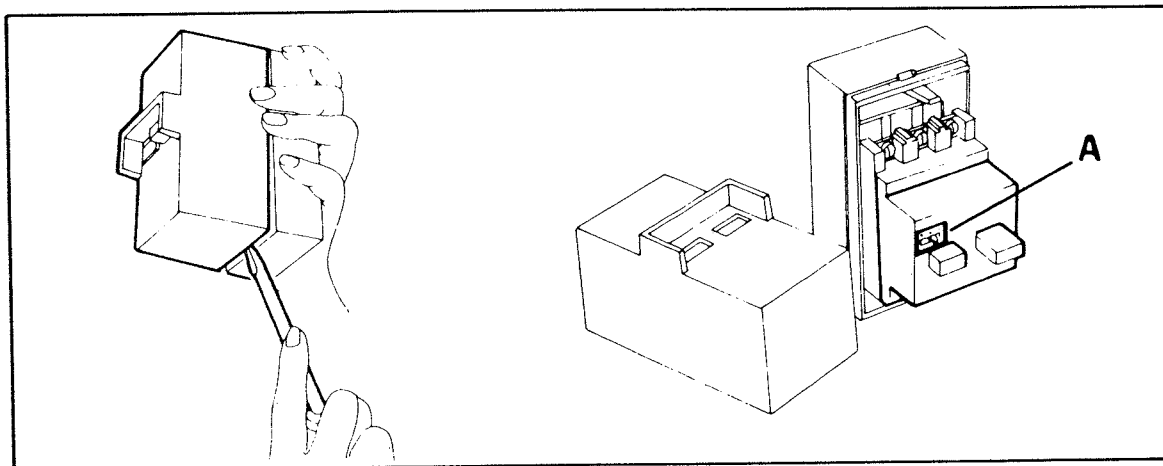

FIGURE 21
The 1A Box Sealer is equipped with a circuit breaker which trips the "ON-OFF" switch to "OFF" position. Located inside the electrical control box on the side of the main frame just below the conveyor bed, the circuit breaker has been pre-set for 3.4 amps and requires no further maintenance. Should the circuit breaker be replaced, check the amp setting before installation. Remove the front cover on the electrical box from the under side as shown in figure 21 and set the amp setting (A) at 3.4 amps.